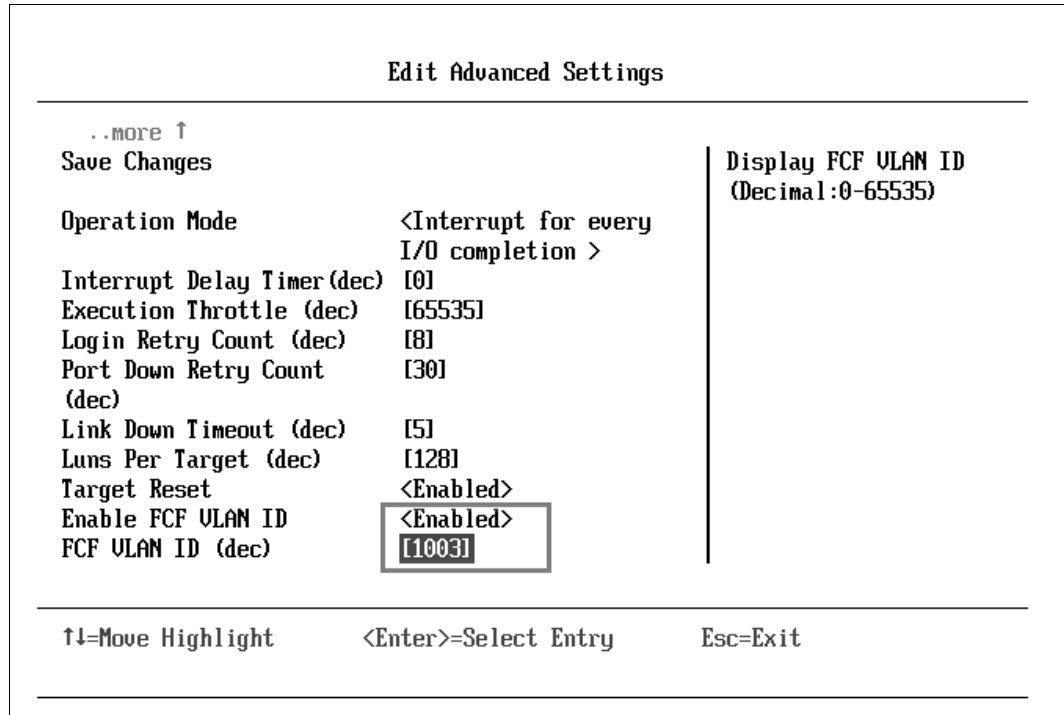

Figure 10-11 Manual FCoE VLAN ID setting for QLogic CNA in UEFI
- ▶ After booting the system, press F1 to access the UEFI configuration menu (Figure 10-11). Set Enable FCF VLAN ID to **Enabled** and then enter the VLAN ID.